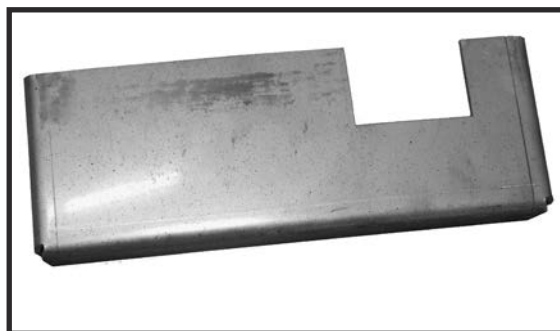

Figure 34: Bottom shield.
1. Install the Bottom shield (Figure 34) first over the metal protrusion as shown in Figure 36.